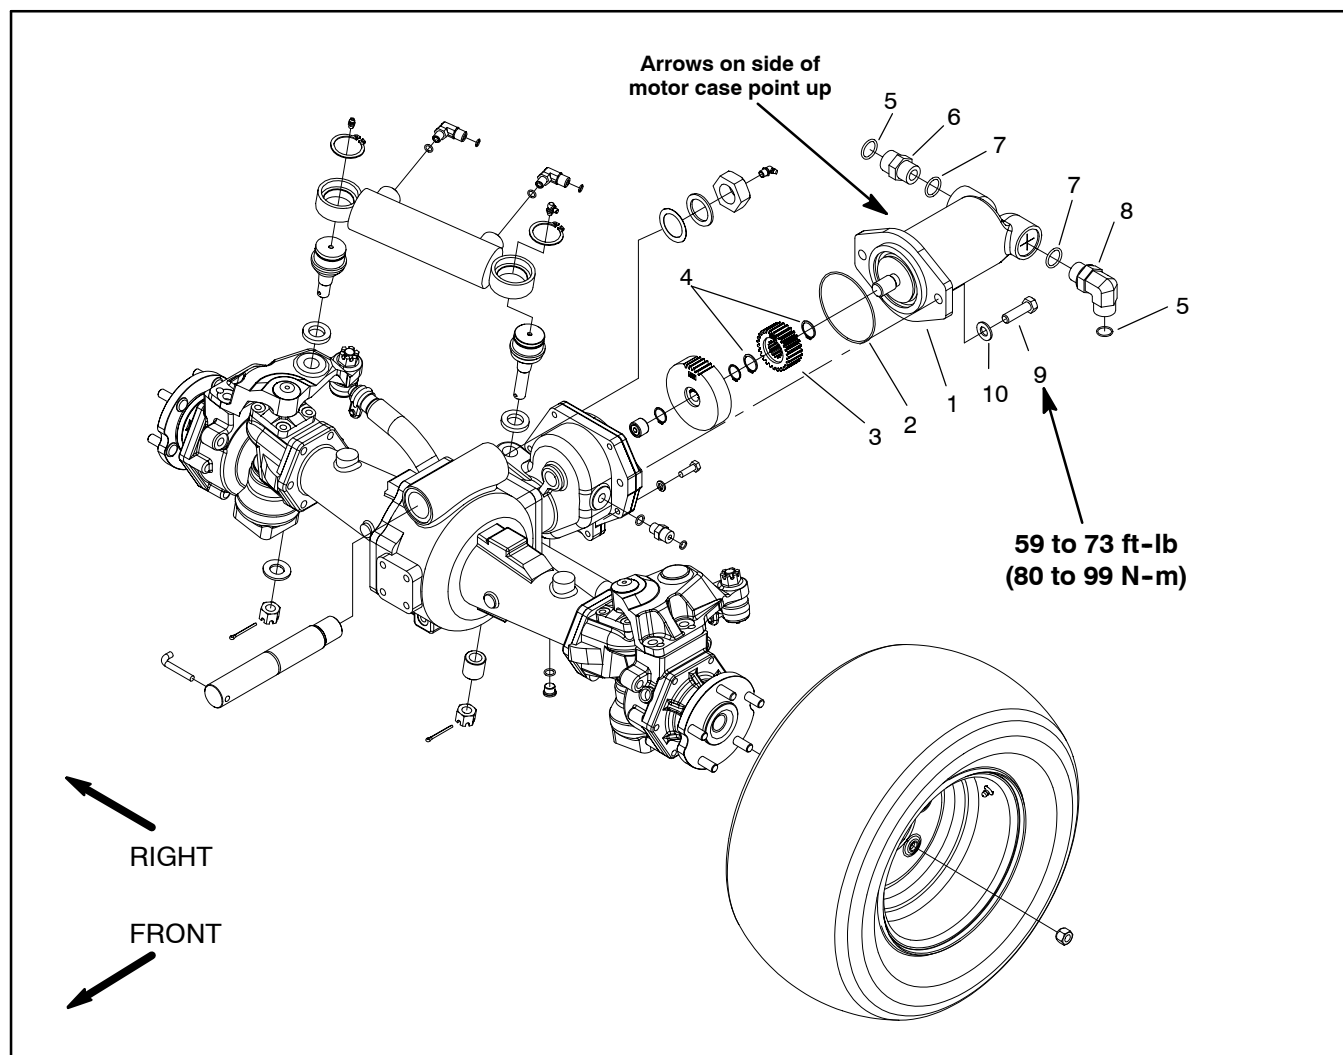

Figure 73
4. Remove motor using Figure 73 as a guide.